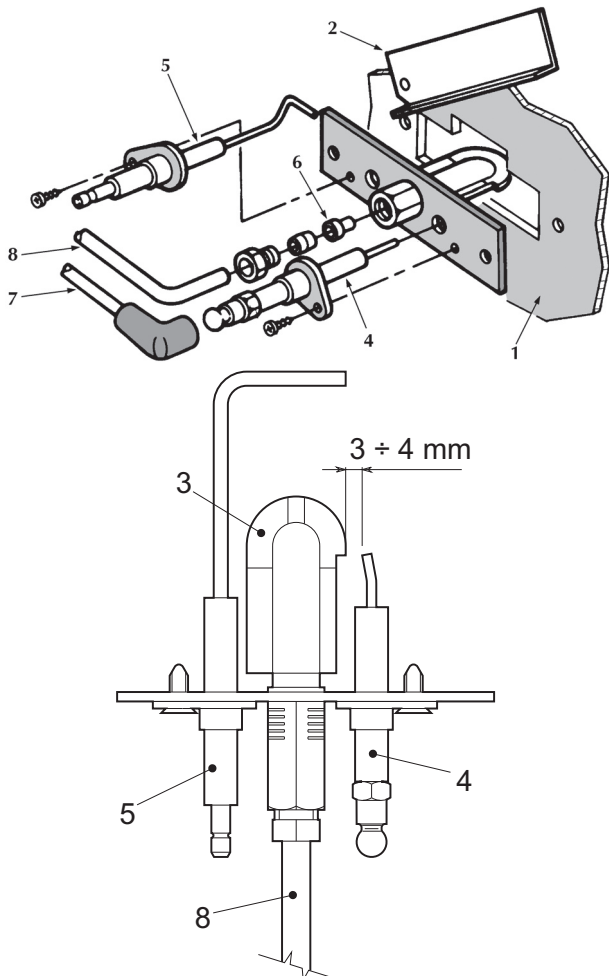

fig. 9 - Pilot burner
- The electrodes must be free of deposits and properly positioned (see fig. 9).
| | No discharge between electrodes | Make sure the electrodes are correctly positioned, intact, free of deposits and that the spark is regular (see fig. 9) Check the electrical connections at the ignition and ionisation electrodes |